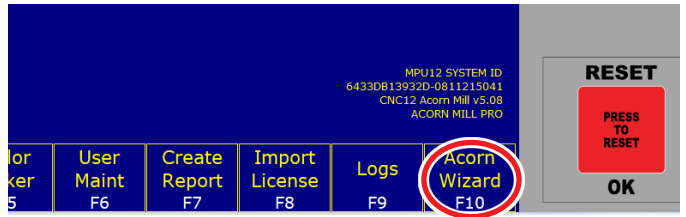

FIGURE 11
B. Click on Acorn Wizard F10 (see Figure 11)